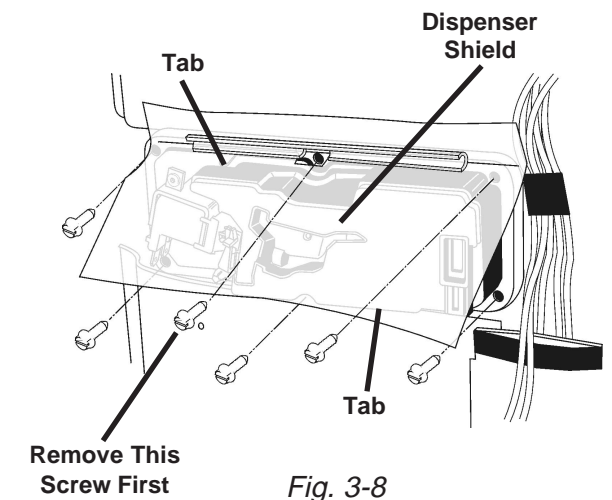

Fig. 3-8
2. Remove the center top hex head screw and remove the dispenser shield and disconnect the wiring harness connectors from the detergent dispenser solenoid and rinse aid sensor. (Fig. 3-8)
3. Remove the remaining five (5) screws securing the dispenser assembly to the inner door liner. (Fig. 3-8)